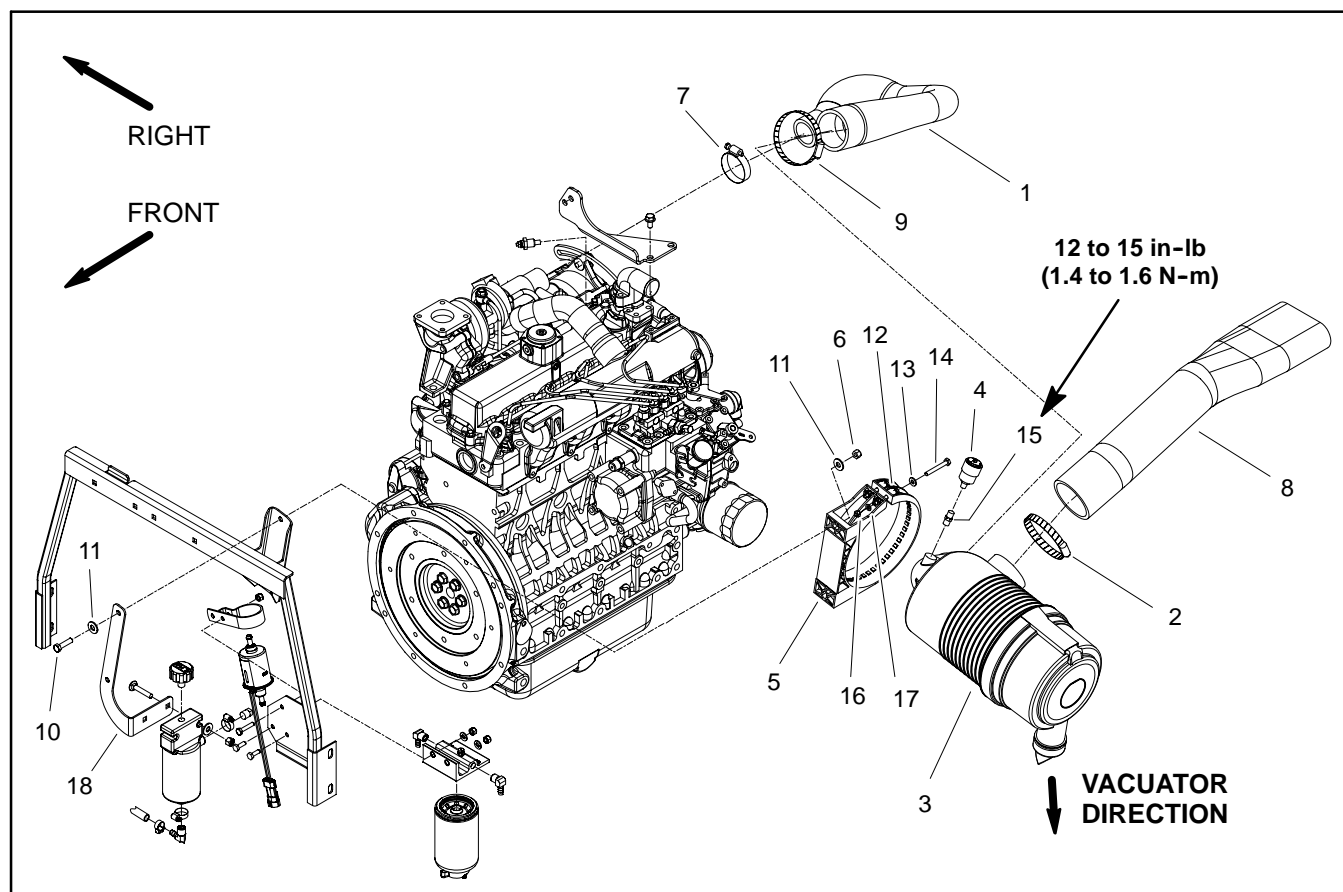

Figure 1
## Removal (Fig. 1)
3. Remove air cleaner components as needed using Figure 1 as a guide.
## Installation (Fig. 1)
1. Assemble air cleaner system using Figure 1 as a guide.